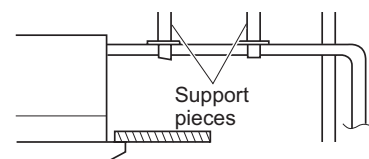

Fig. 2-153
- Do not apply force to the piping on the unit side when connecting the drain pipe. The pipe should not be allowed to hang unsupported from its connection to the unit. Fasten the pipe to a wall, frame, or other support as close to the unit as possible. (Fig. 2-153)